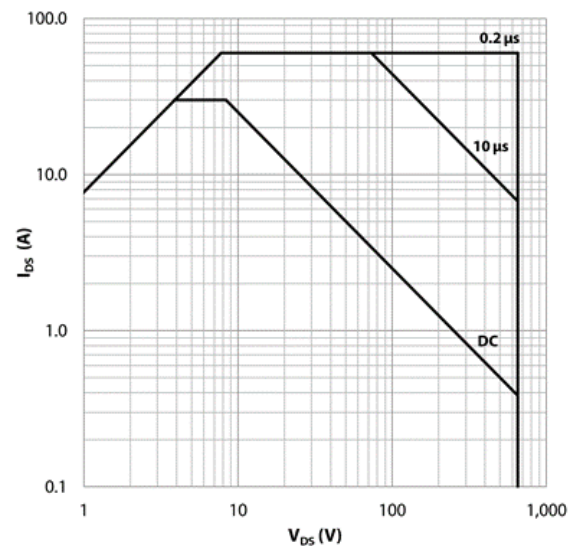
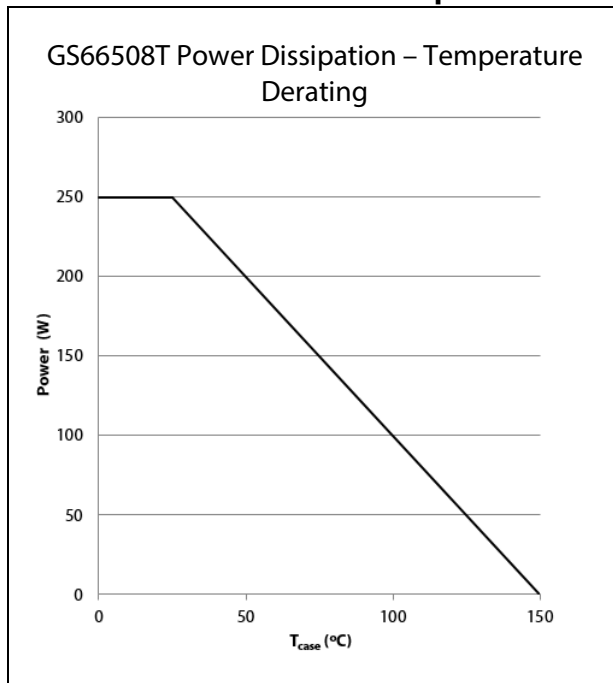

Figure 12: Safe Operating Area @ $T_{case} = 25^\circ\text{C}$
Figure 13: Derating vs. Case Temperature
(6) See Figure 12 for timing test circuit diagram and definition waveforms
(7) L_P = parasitic inductance
(8) See Figure 13 for switching test circuit